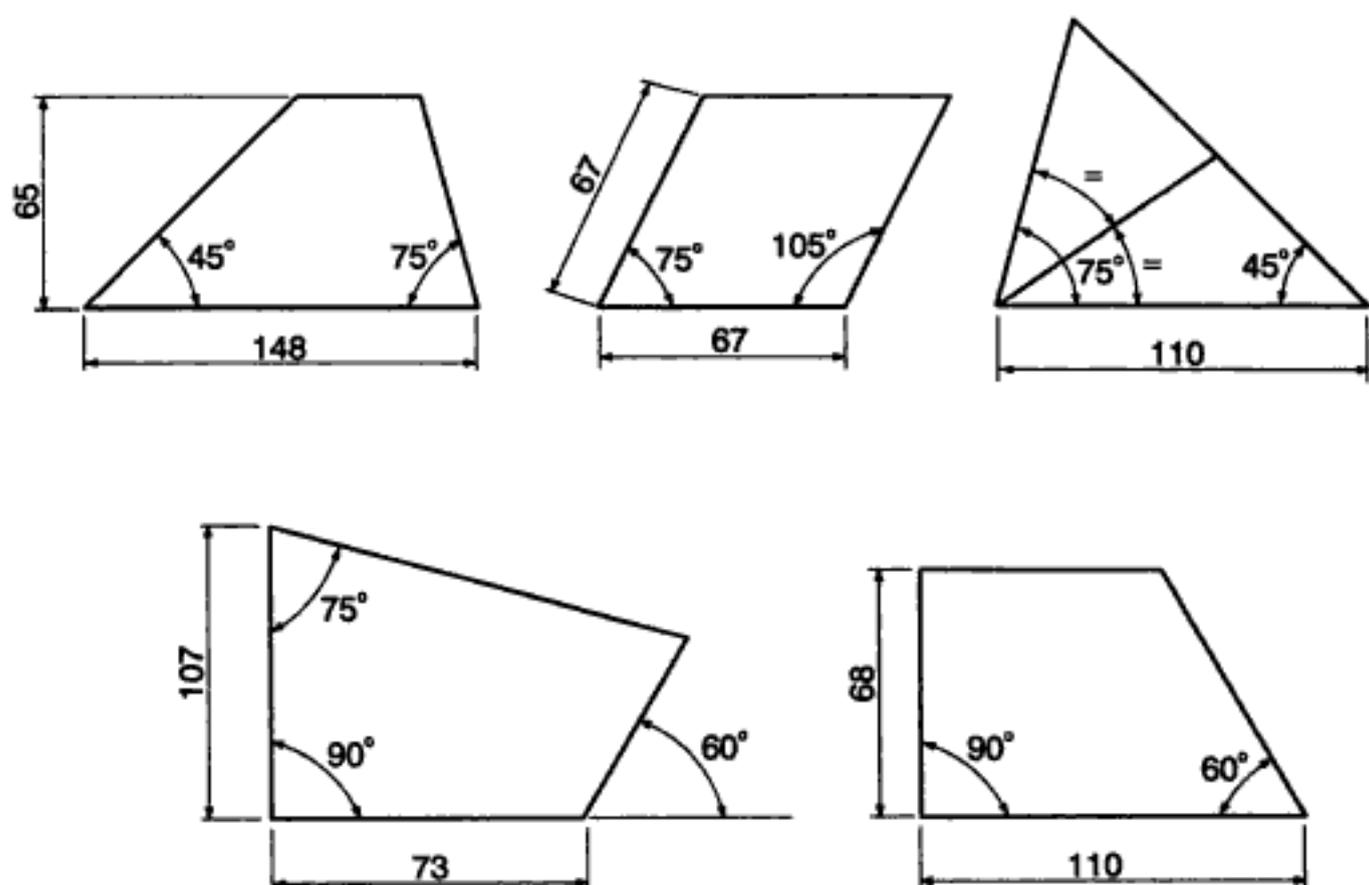

Fig 5.15a–e
- 5 With the aid of set squares, accurately draw fig 5.15a–e full scale. Insert the dimensions, as shown in unit 3.